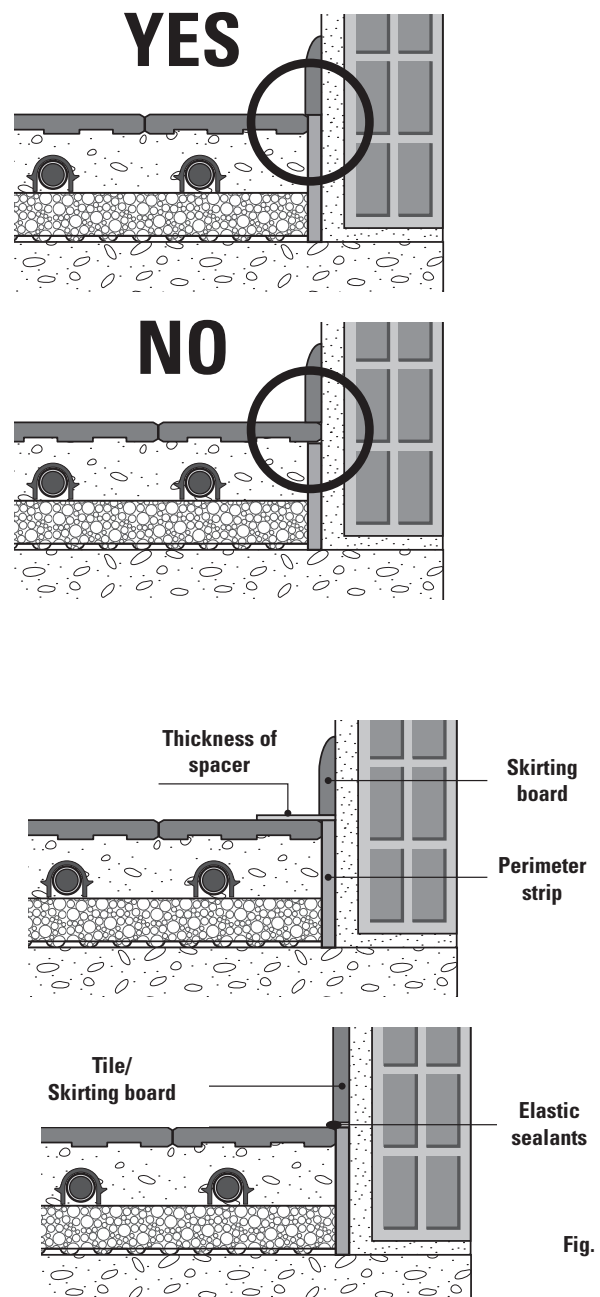

Fig. 58
**The flooring must be installed by laying it close to the insulation strip before cutting any excess off the strip to leave it flush with the floor covering (Fig. 58).**